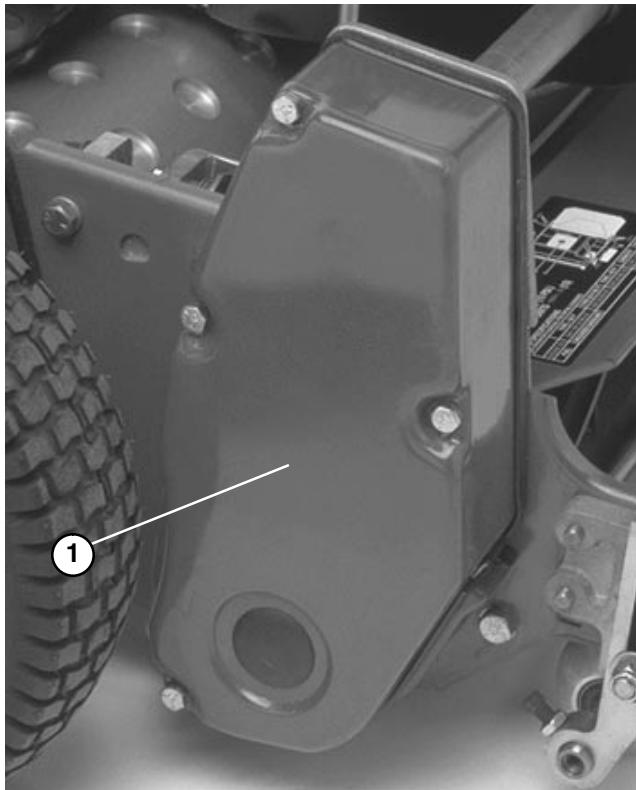

Figure 33
- A. Remove belt cover mounting screws and belt cover to expose belt (Fig. 33).